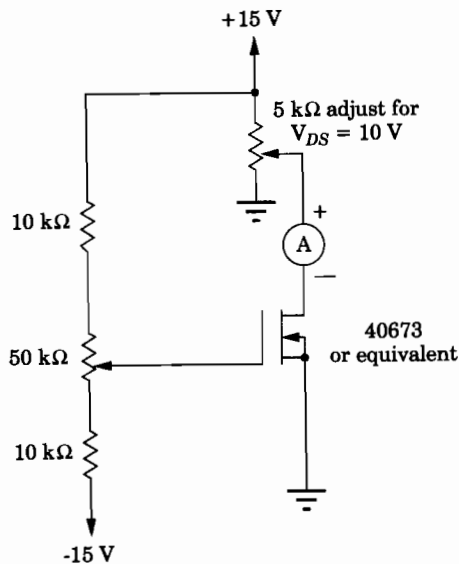

FIGURE 20-1 Schematic diagram of circuit.
4. For the circuit of Figure 20-1 if $V_{GS} = 1$ V, $V_{GS(off)} = -4$ V, and $I_{DSS} = 8$ mA, the drain current is